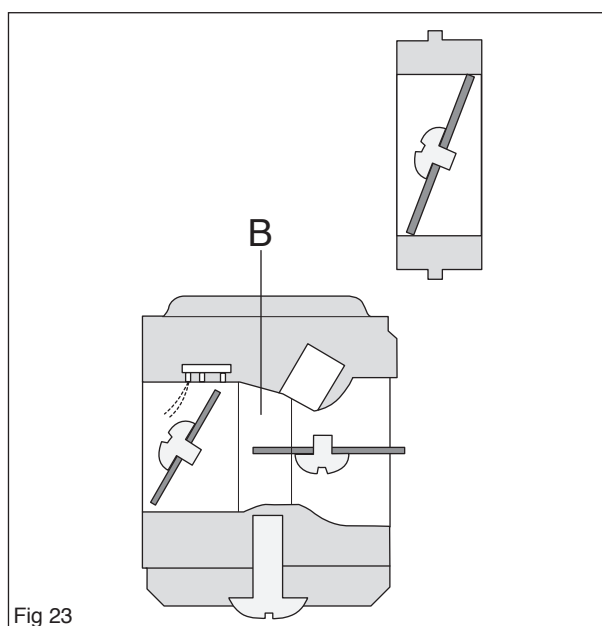

Fig 23
The mixing venturi (B) houses the choke, throttle valve and diffuser jets. Here air is mixed with the fuel to give a fuel/air mixture that can be ignited by the ignition spark. (see figure 23)